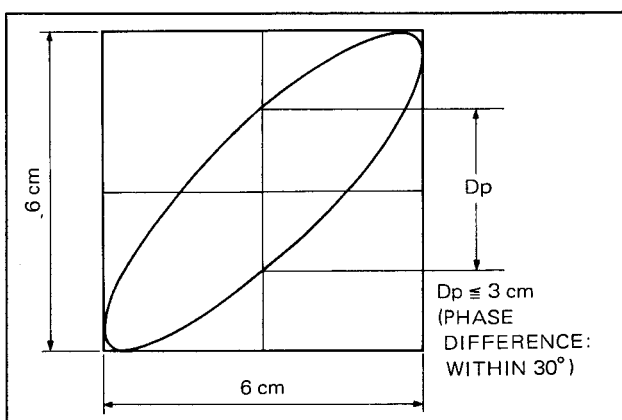

Fig. 3-91. Audio/CTL R/P Head Azimuth Adjustment of Audio 15 kHz Playback
6. Check that the phase difference between AUDIO-1 and AUDIO-2 is within 30 degrees. See Fig. 3-91.